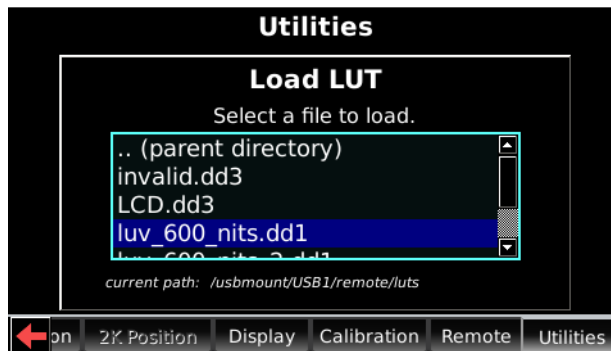

Figure 2-51 Select a File to Load Screen
3. Press **ENTER** to display the files on the USB device, then use the arrow keys to select the desired 1D LUT, as shown in Figure 2-51.